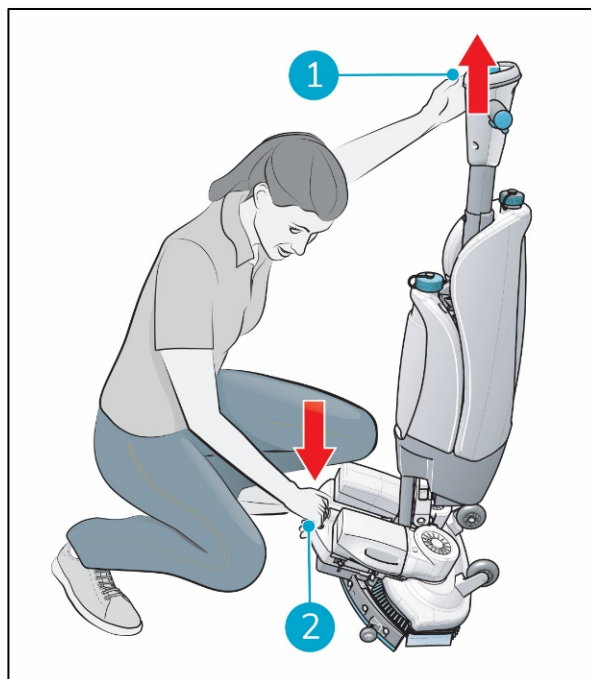

Figure 16
1. Crouch down while holding the scrub deck firmly with one hand (Figure 16, pos 2).
2. Push the handle forward with your other hand (Figure 16, pos 1).